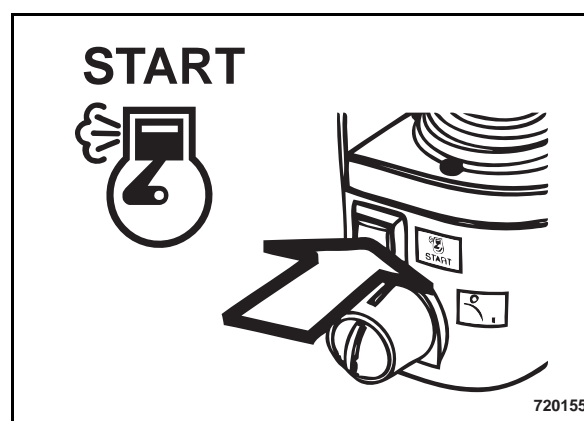

Fig. 34
- Press the start button to start the engine(Fig. 34).